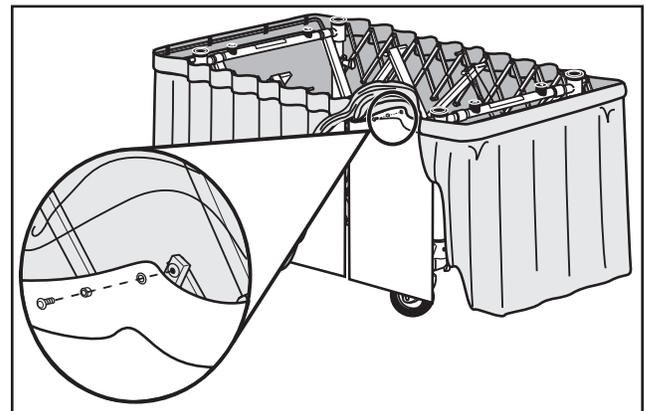

Figure 9 - Attaching Sides of Drape
3. Align the grommets with the threaded holes of the drape frame. Insert the spacers and screws through the grommets and into the threaded holes in the drape frame (Figure 9). Tighten the screws only enough to hold the drape in place without interfering with operation of church truck.